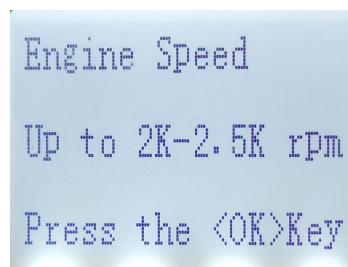

Figure 15
(1) On the main menu interface, press the down button to select the maximum load test, and press the OK key to enter, as shown in Figure 15: